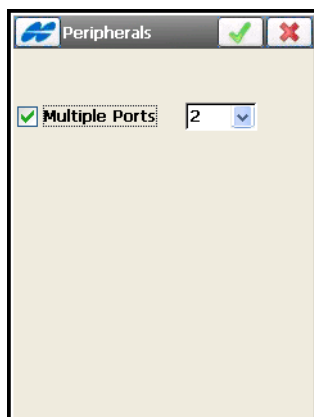

Figure 4-8. Peripherals
- Press the **Peripherals** button to enable the *Multiple Ports* option if needed to transmit data from different ports of the base receiver to use for peripherals (see Figure 4-8 on page 4-8).
If Multiple Ports are set for peripherals (see Figure 4-8), depending on the number of ports selected, there can be several radios for correction data output.